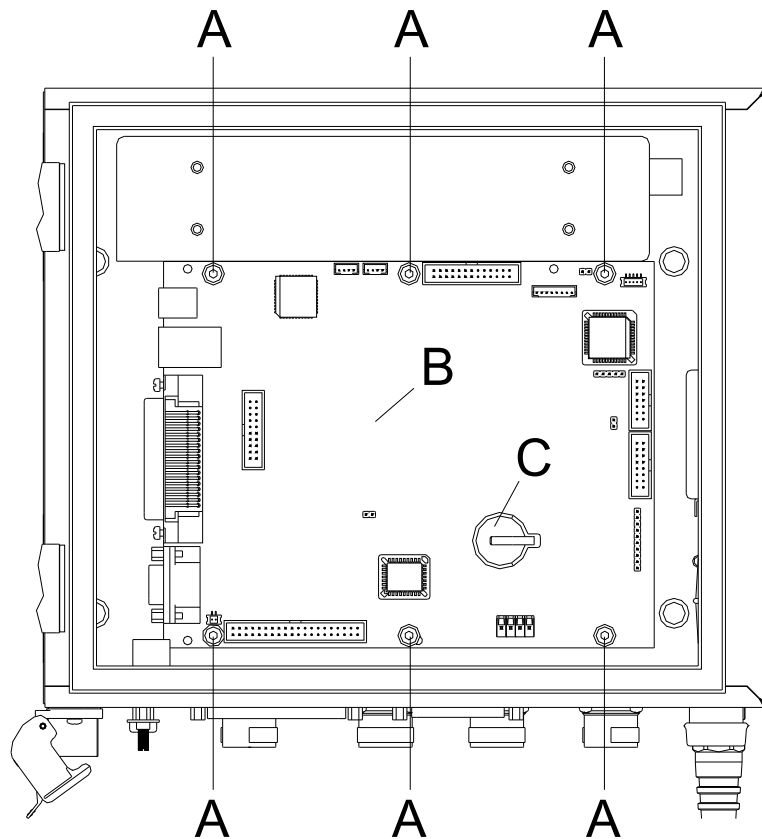

Figure 6
2. Remove the defective battery (A).
3. Insert a new battery into the support (C, Figure 6).